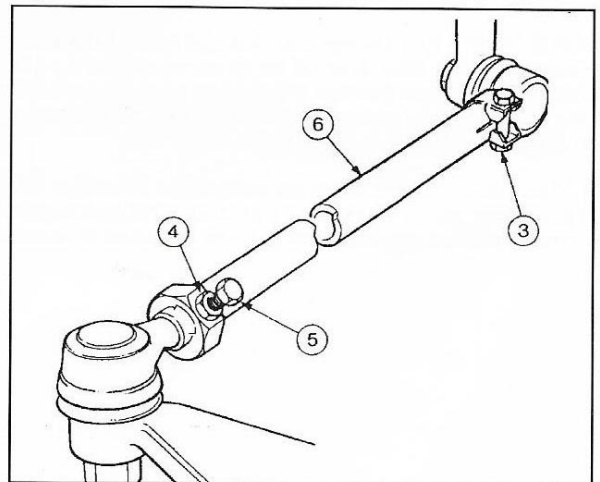

Fig. 103
1. Slacken the clamp nut and bolt (3, Fig. 103).
2. Slacken the lock-nut (4).
3. Slacken the track adjusting peg-bolt (5).
4. Rotate the drag link (6) clockwise or counter clockwise to increase or decrease the toe-in required.
5. Locate the drag link peg bolt (5) correctly in its indentation. Tighten the peg bolt to a torque 45 Nm (35 lbf ft).
6. Tighten the lock-nut (4).
7. Tighten the clamp nut and bolt (3) to a torque of 45 Nm (35 lbf ft).